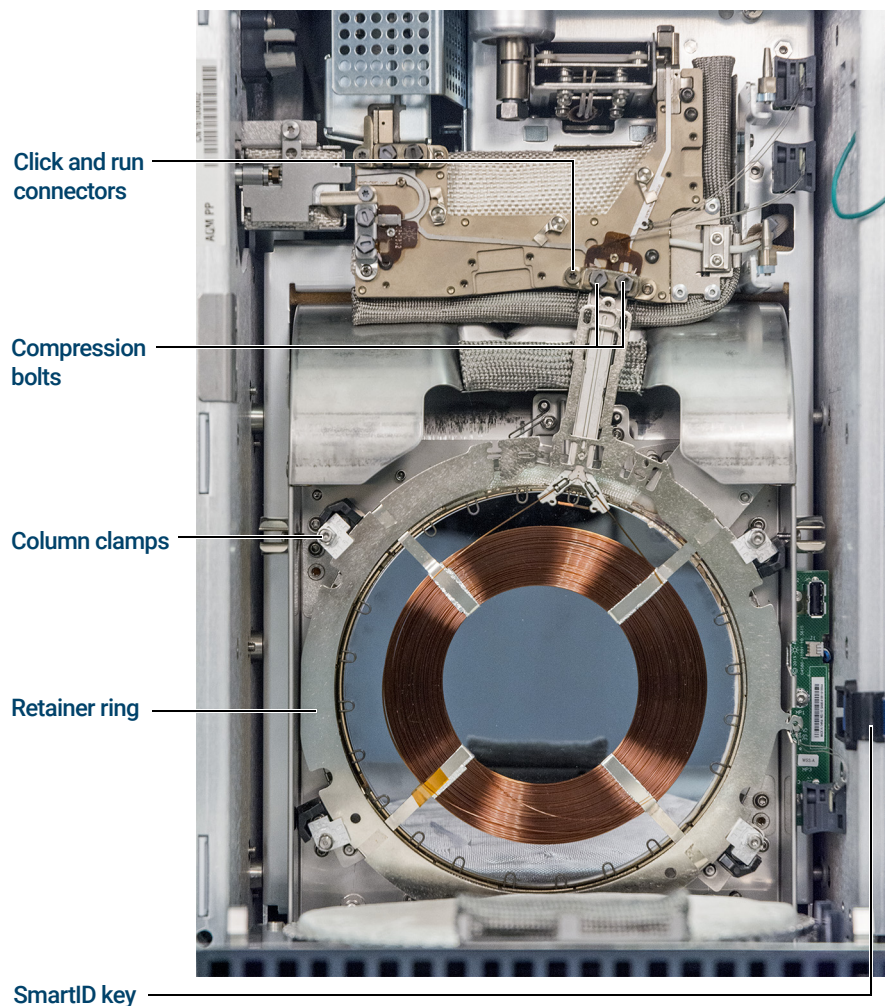

Figure 11. 9000 GC column and related parts
- 7 Using the Intuvo torque driver, rotate all four column clamps off the column's retainer ring. (See Figure 11.)